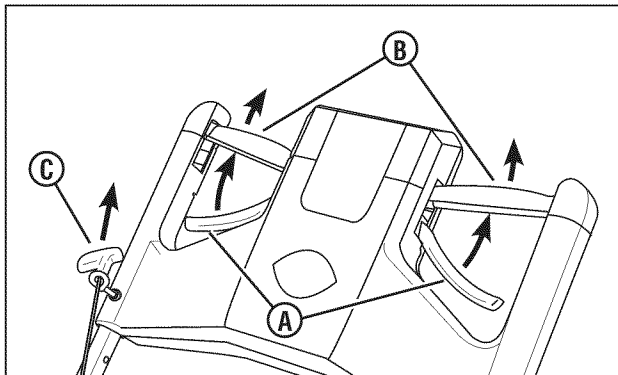

Figure 6: Starting the mower
1. Squeeze the blade control **(A, Figure 6)** against the drive control **(B)**.